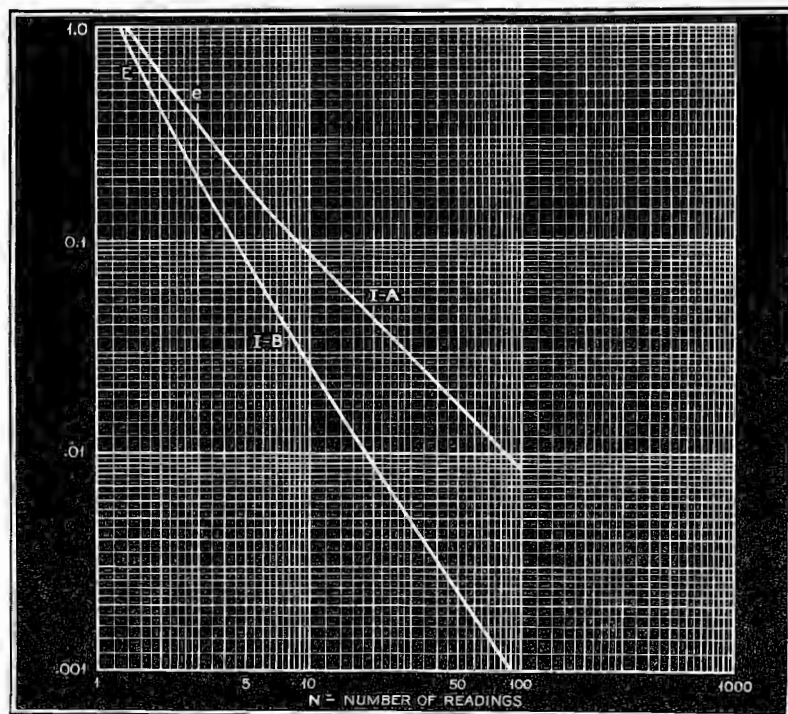

Figure 1
the function φ for both E and e is given as a function of n, as n varies by curves I-A and I-B, Figure 1. Both E and e may be determined readily by applying formula (1) where φ is determined from curve I.